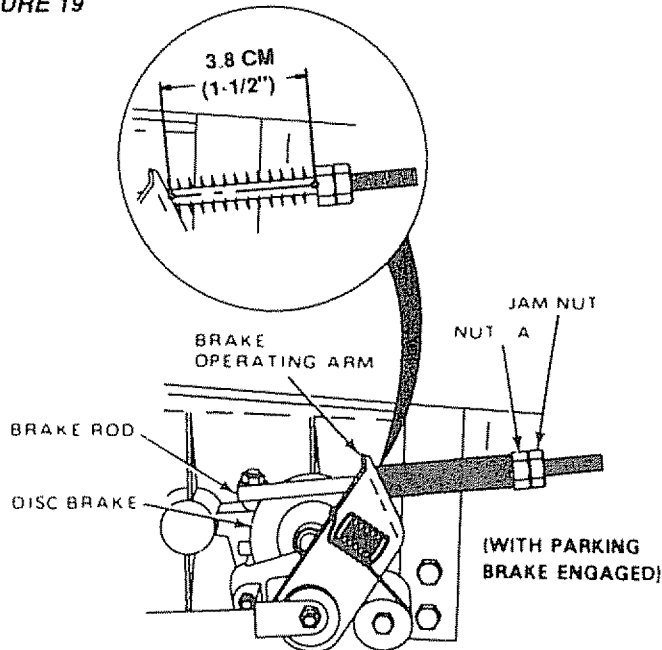

FIGURE 20
This Tractor is equipped with an adjustable brake system mounted on the right side of the transaxle (Fig. 20).
- c. If distance is other than 3.8 cm (1-1/2"), loosen jam nut (Fig. 20) and turn nut until distance becomes 3.8 cm (1-1/2"). Retighten jam nut against nut "A"